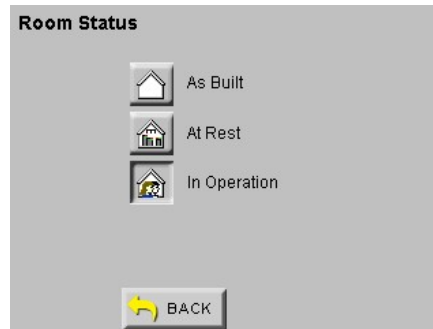

Figure 5-72 Reports Room Status Screen
- Press the STATUS button to display the Room Status screen shown in Figure 5-72.